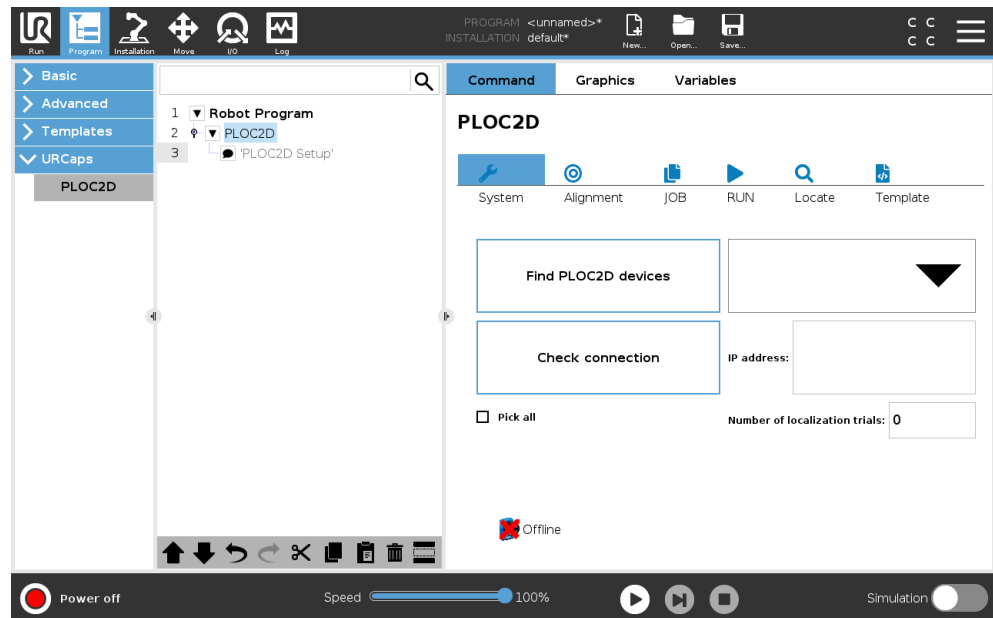

Figure 5: UR Robot user interface, connect to the PLOC2D device
1. Enter the **Program** section, see figure 5, page 8.